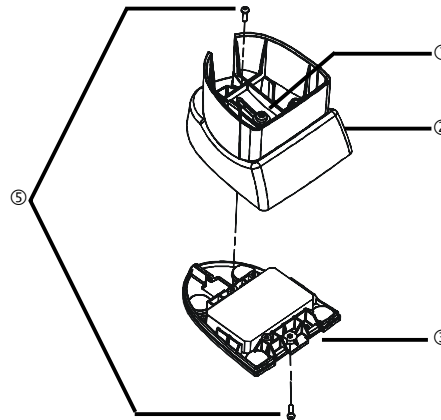

Figure 3
Refer to Figure 3 to first detach the stand base cover ② from the stand base support ③:
1. Loosen the positioning screw ①
2. Unscrew the two fixing screws ⑤ and detach the stand base cover ② from the stand base support ③